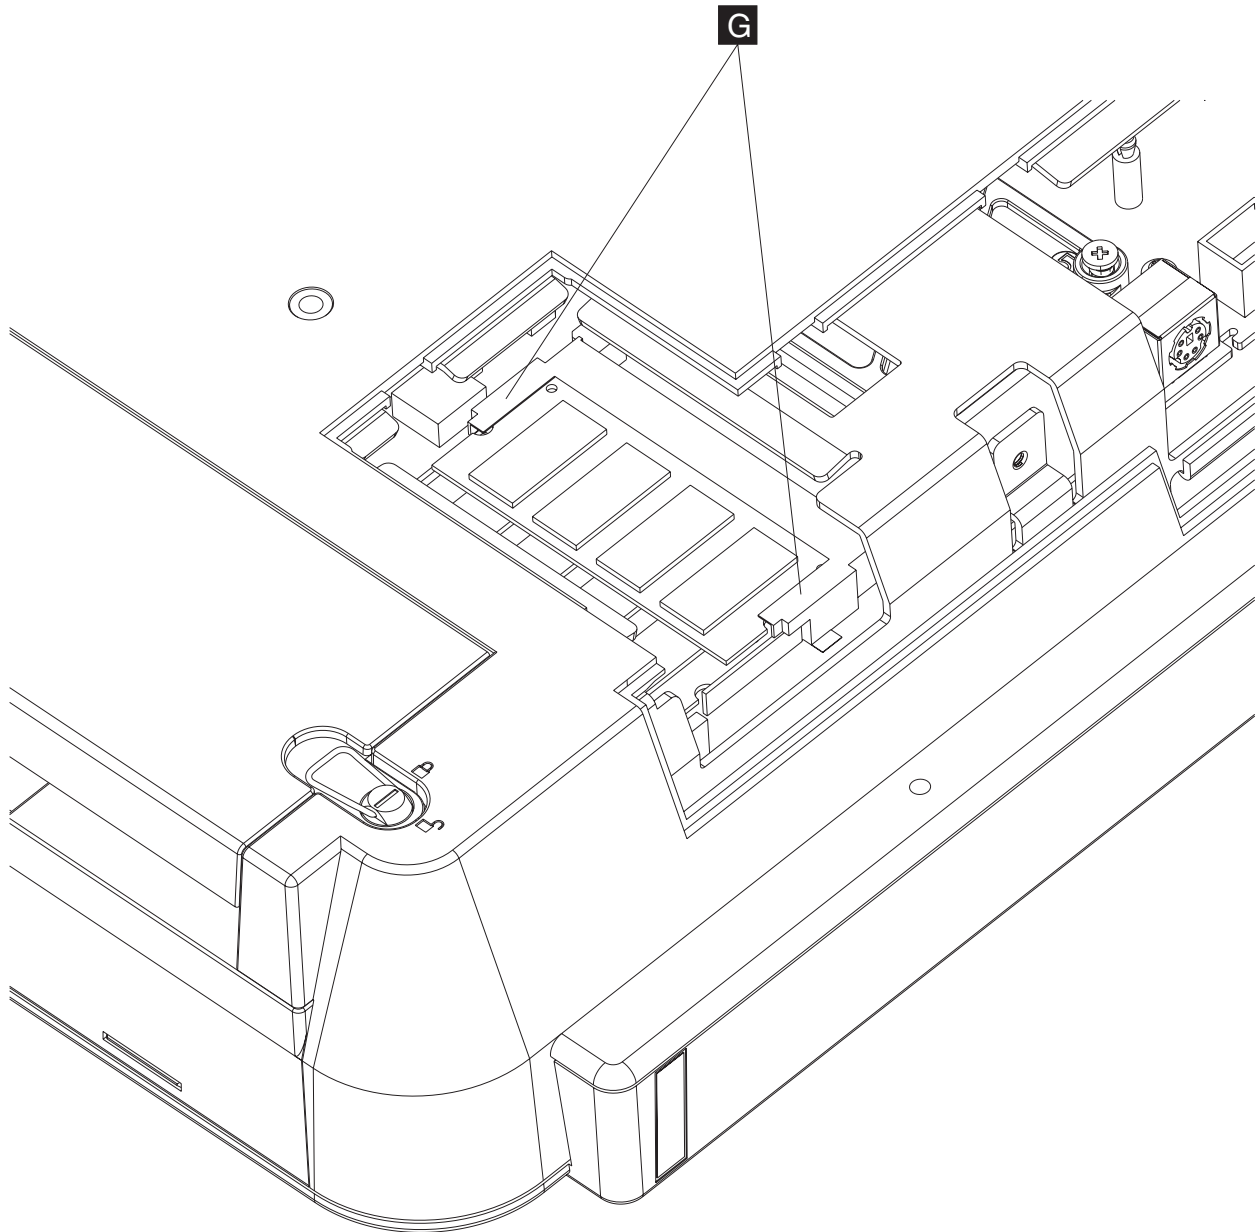

Figure 30. Removing the memory card
3. Gently pull outward on the two side latches holding the memory card (G in Figure 30). The memory card pops upward so that you can lift the card from the slot.